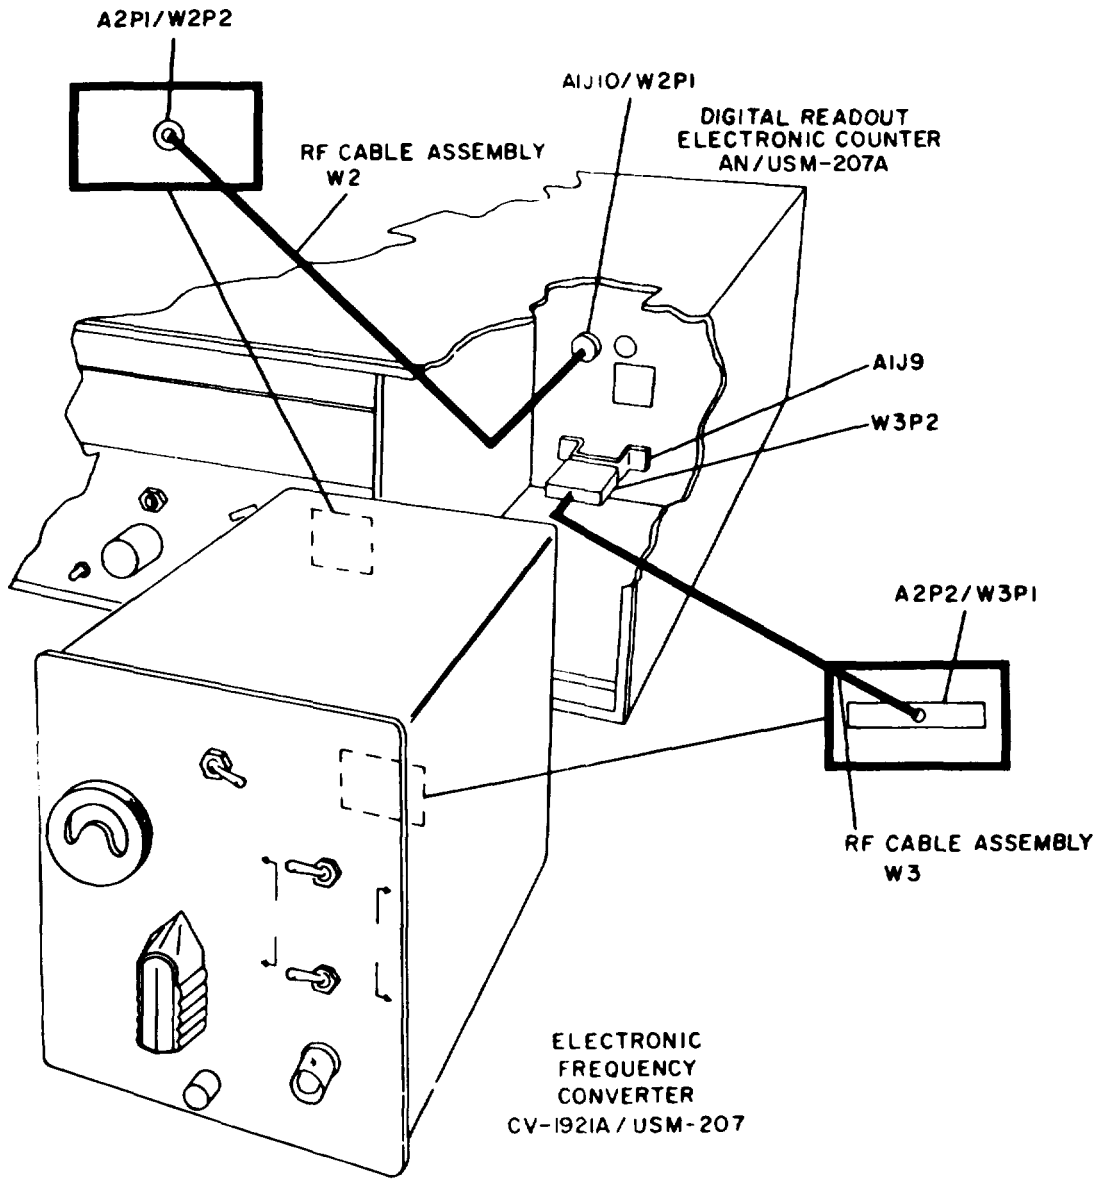

Figure 5-3. Electronic Frequency Converter A2, Preliminary Test Setup
(1) PRELIMINARY TEST SETUP (figure 5-3).